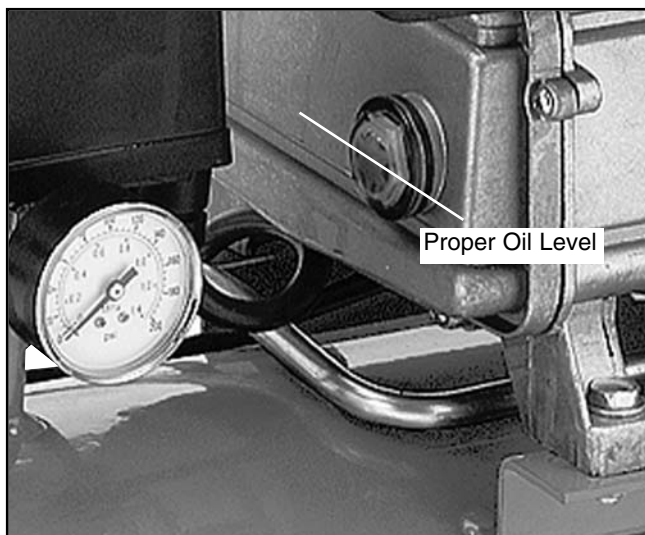

Fig 2. G8695 oil level indicator.
3. Check the oil level in the motor crankcase. For the G8694 and G8889 the oil is checked by removing the filler cap and checking to make sure the oil level is between the two marks on the end of the dipstick. For the G8695 the oil can be checked using the clear plastic sight gauge. The oil level should be close to the center of the gauge. **See Figure 2.**